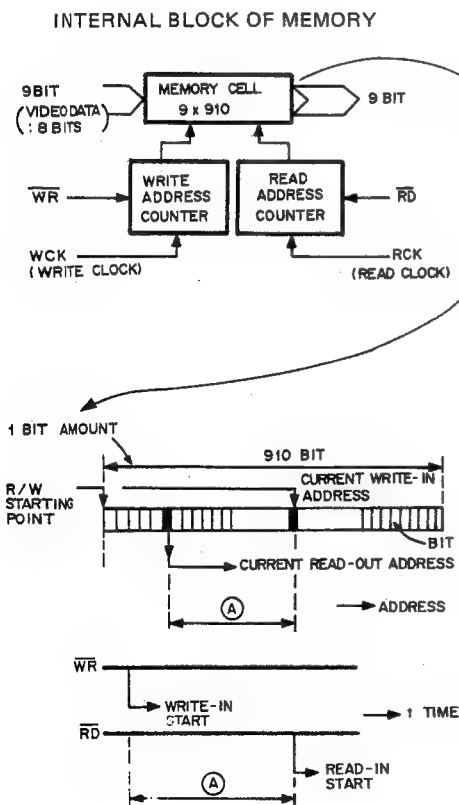

Fig. 3-2
For this, independent address counters are provided for writing and reading, and the  $\overline{WR}$  and  $\overline{RD}$  signals are the reset signals for the two address counters. The WCK and RCK signals are the clocks of the two counters. (See Fig. 3-2.)
As a result, as long as the  $\overline{WR}$  signal is before the  $\overline{RD}$  signal, the written data is read out with a time delay which is the difference between  $\overline{WR}$  and  $\overline{RD}$  (Fig. 3-2 (A)). The maximum delay period is determined by the capacity of the line memory: Since MN4760 has a 910-sample memory, the delay time is 910 addresses = 1H.